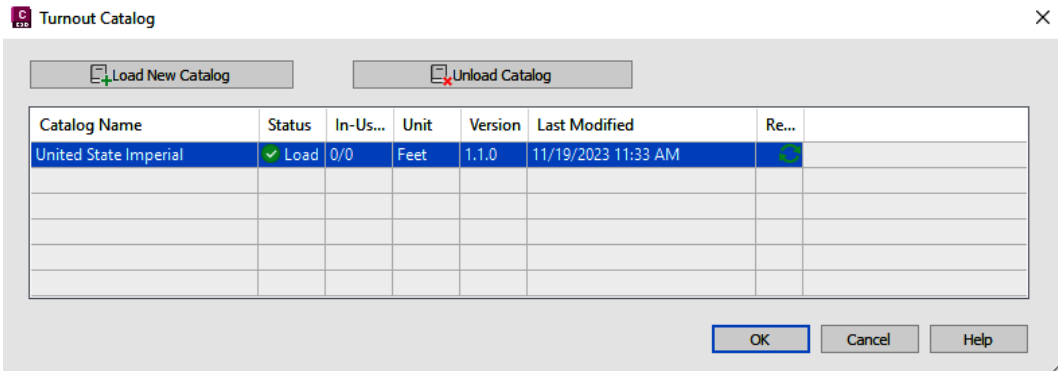

Figure 4.27 – The Turnout Catalog dialog box
6. If not already previously defined, our **Turnout Catalog** dialog box will appear on the screen where we'll need to load our rail catalog (as shown in *Figure 4.27*). If our file already has this defined, the **Turnout Catalog** dialog box will not appear.